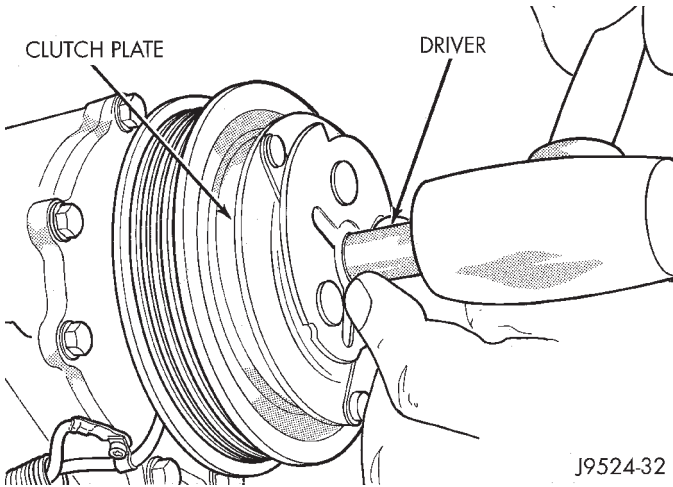

Fig. 27 Clutch Plate Driver
(7) Install the clutch plate with the driver (Special Tool C-6463) (Fig. 27). Install the shaft hex nut and tighten to 14.4 N·m (10.5 ft. lbs.).